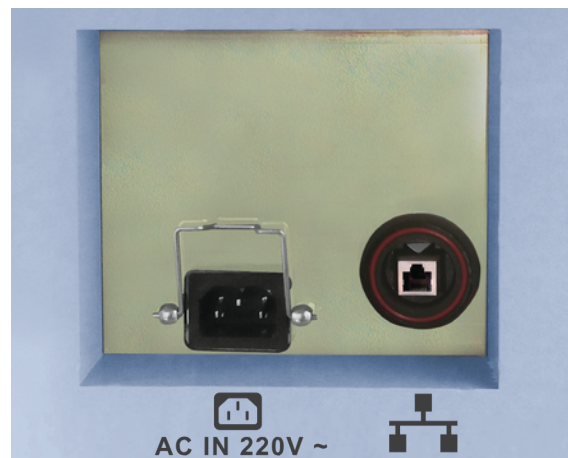

Fig 4.1 Connection Position of Power Supply
**Step 1** Check whether the cable connections of the equipment power supply are in good condition; Check whether the equipment power supply is grounded reliably; whether the Emergency Stop button on the external cover plate is pressed down, if yes, please rotate it clockwise to reset it; whether the Emergency Stop button on the special keyboard of the equipment is pressed down, if yes, please rotate it clockwise to reset it; whether the keys of the special keyboard work properly. The connection position of the power supply is shown in Fig 4.1 below: